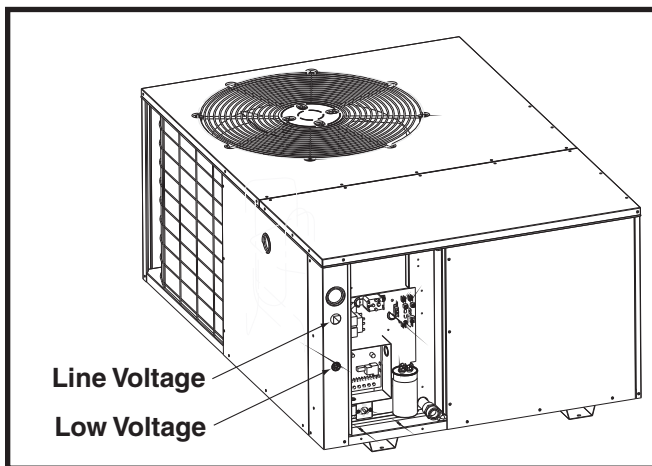

Figure 8. Power Entry
- Provide power supply for the unit in accordance with the unit wiring diagram, and the unit rating plate. Connect the line-voltage leads to the terminals on the contactor inside the control compartment. Extend leads through power wiring hole (Figure 8). Connect L1 and L2 directly to the contactor.
- The low voltage wires must be properly connected. Route 24V control wires through the sealing grommet (Figure 8, page 8) near the power entrance. Recommended wire gauge and wire lengths for typical thermostat connections are listed in Table 3 (page 10).